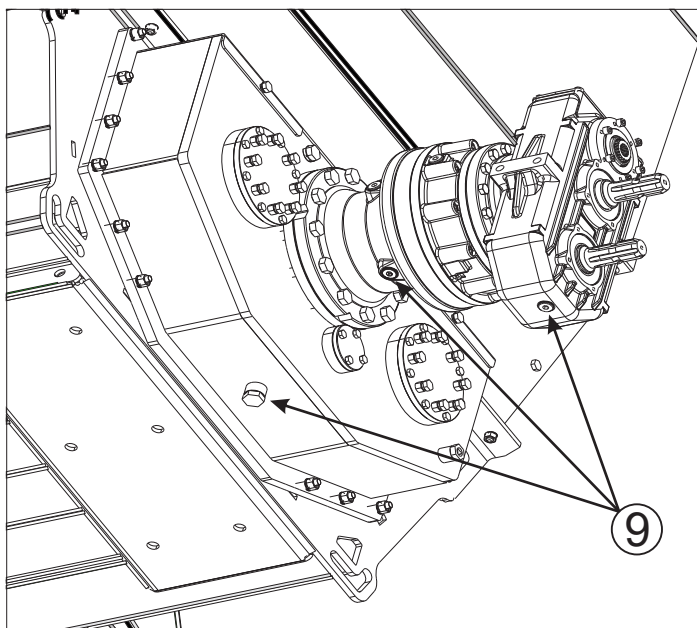

Fig. 23 - Drenagem
To replace the gearbox oil, remove the drain plugs (9) at the bottom. (Fig. 23) Drain the oil into a container. MENTA strongly recommends that you follow environmental regulations regarding drained oil waste.
Check the hydraulic oil level (6) to ensure there is sufficient oil in the system. (Fig. 23) To bleed air from the hydraulic system, operate the PTO for a few minutes with the equipment empty.